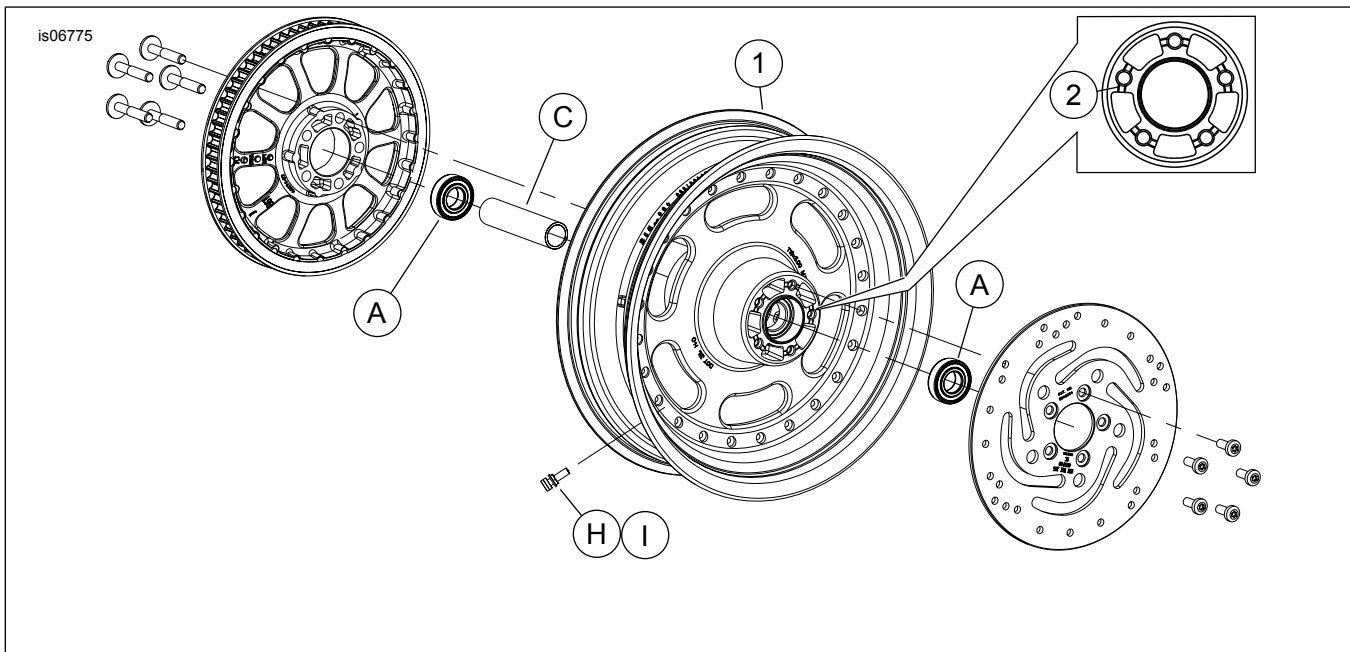

Figure 1. Service Parts: Fat Bob Cutback Rear Wheel
- See Figure 1. Install valve stem assembly (H) on wheel. Refer to service manual.